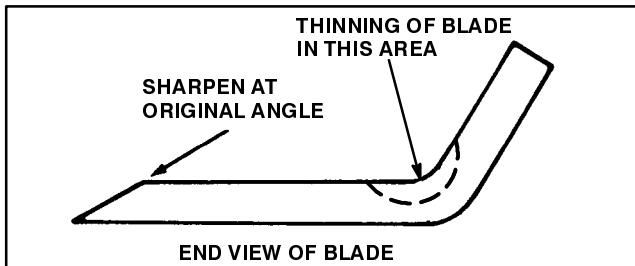

Figure 23
7. Using a file, sharpen cutting edge at both ends of the blade (Fig. 23).